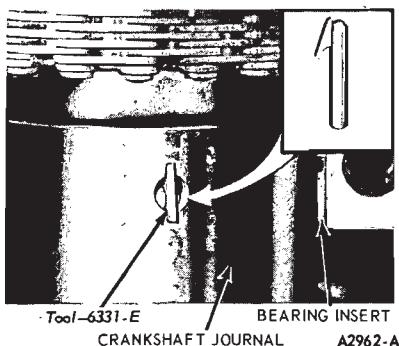

FIG. 30—Removing or Installing Upper Main Bearing Insert
4. Insert the upper bearing removal tool (Tool 6331) in oil hole in crankshaft (Fig. 30).
1. To install upper main bearing, place plain end of bearing over shaft on locking tang side of block and partially install bearing so tool 6331 can be inserted in oil hole in crankshaft (Fig. 30). With Tool 6331 in oil hole, rotate the crankshaft in the opposite direction of engine rotation until the bearing seats itself. Remove the tool.